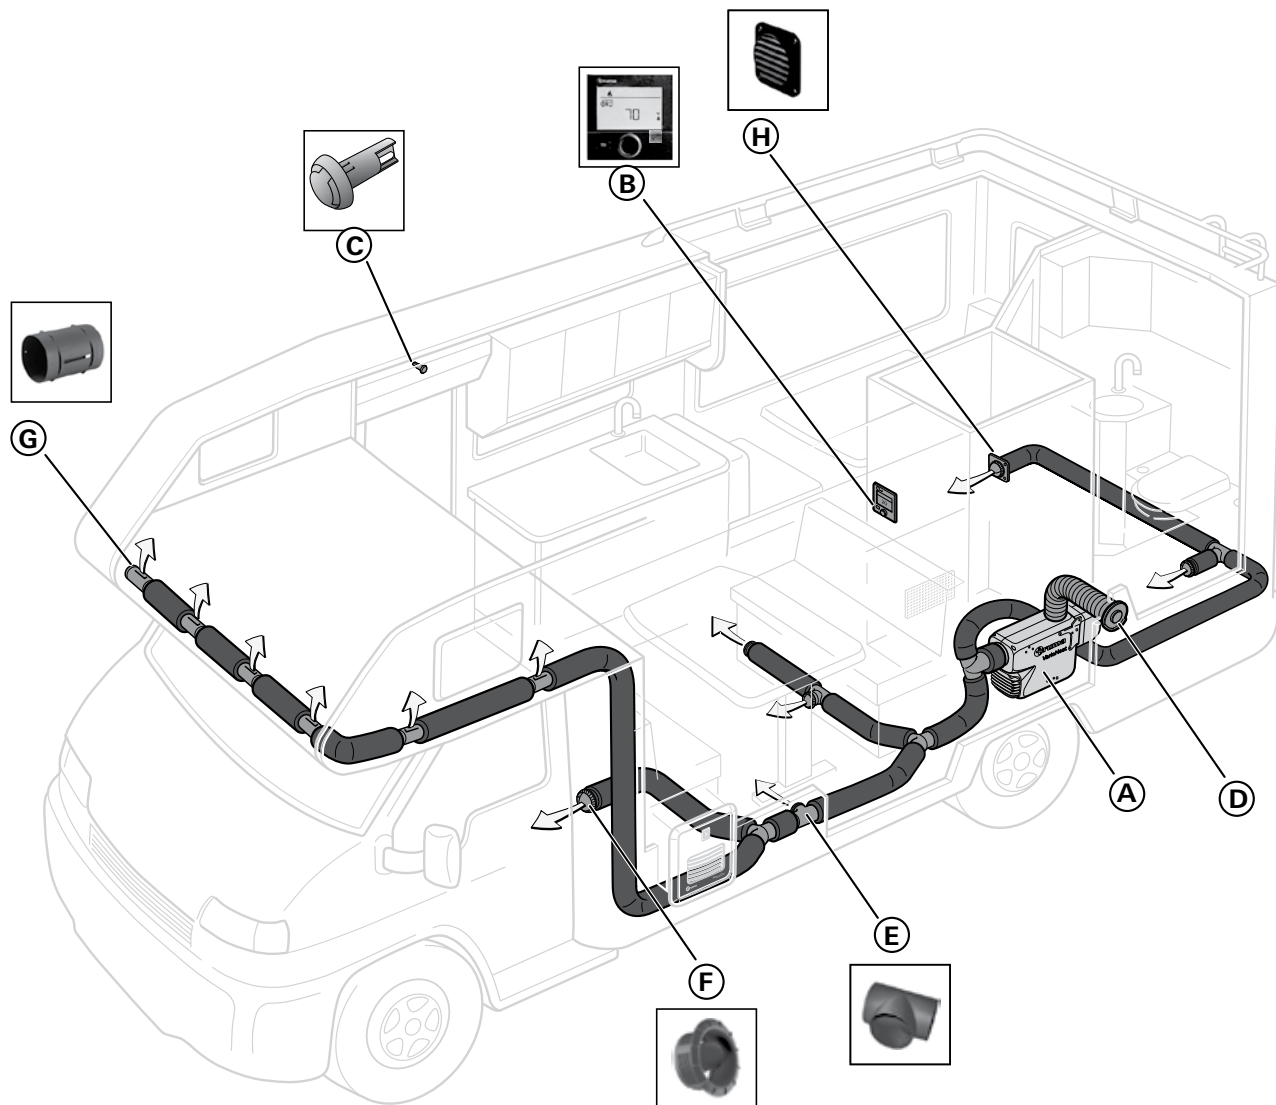
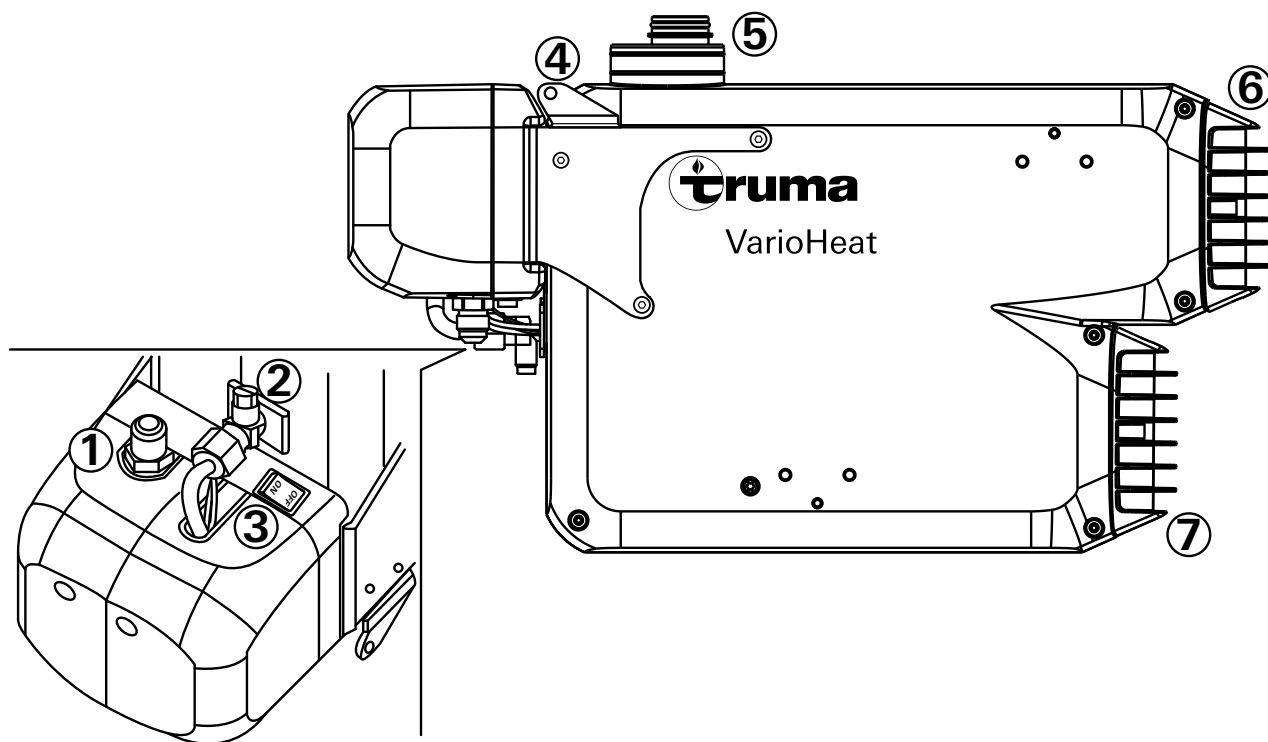

Fig. 1
Fig. 2
- Keep the area in front of the warm air outlets (Fig. 1 – 6) free of combustible or heat-sensitive materials. Do not put any material into the warm air outlets.
- In order to avoid overheating of the VarioHeat, keep the air inlets of the VarioHeat (Fig. 2 – 7), the air openings to the area in which the VarioHeat is installed (Fig. 1) and the spacing around the VarioHeat free of obstruction.
- To ensure clean combustion, keep the wall cowl free of obstruction. Do not lean any objects against the wall cowl (Fig. 1 – D).
- Ventilation air can reach 250 °F (121 °C) at the warm air outlets. Always check the air temperature before varying the air throttle position (Fig. 1 – E,G,H).
The switch (Fig. 2 - 3) shuts off the power to the safety gas valve and the gas supply to the VarioHeat. If you want to make sure that the gas supply to the VarioHeat is off, turn the switch to the OFF position.
The CP plus VarioHeat control panel (Fig. 1 – D) is used to switch between modes of operation.